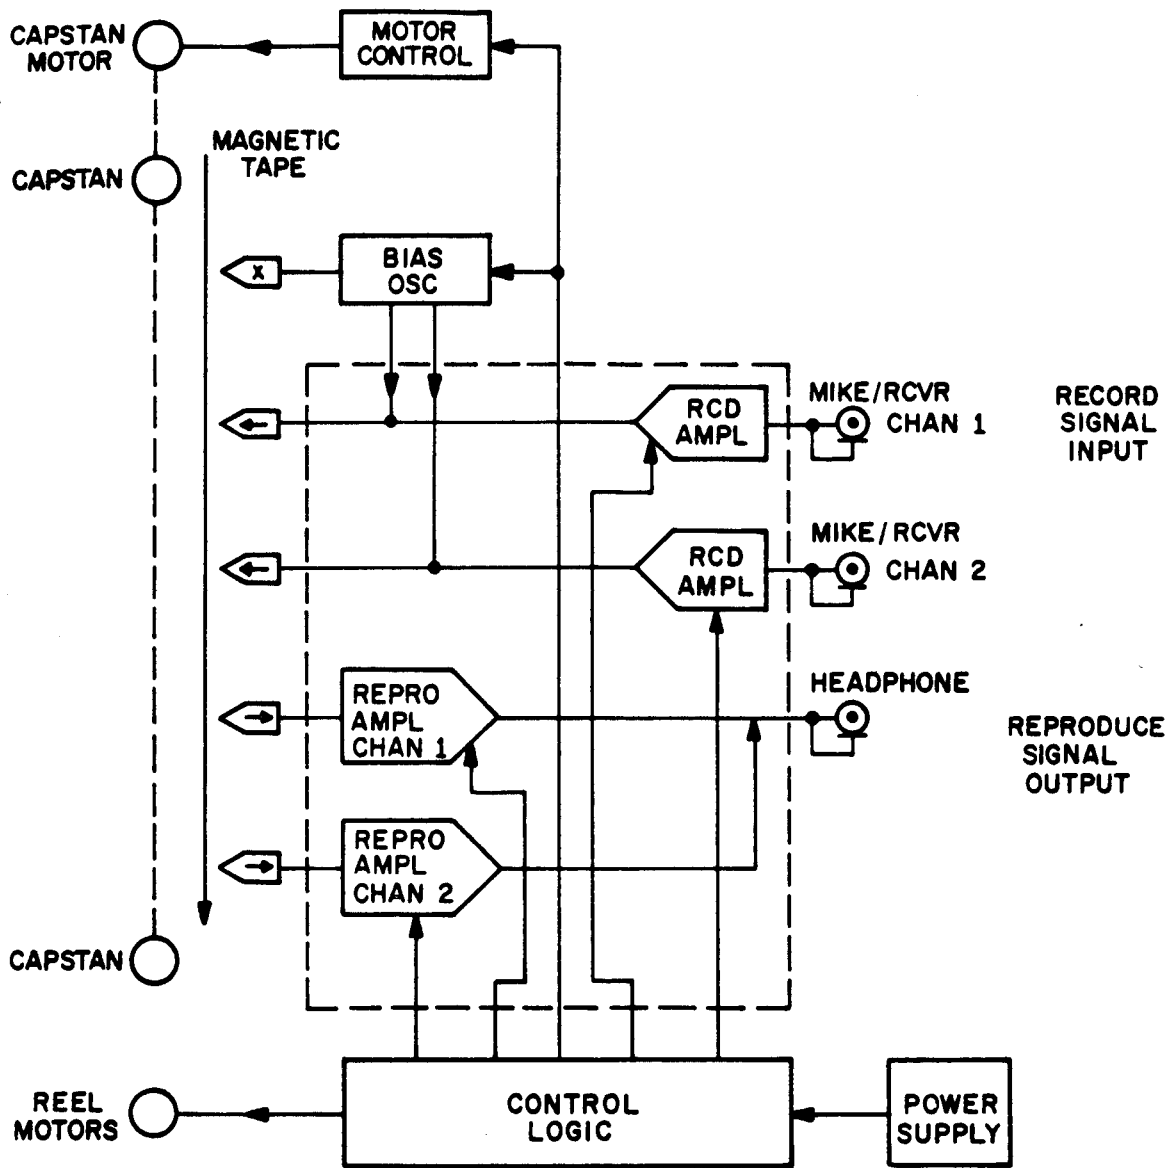

FIGURE 6-1
a. Recording Technique. (See Figure 6-1). Standard direct recording techniques are used in which a record amplifier and magnetic head transfer the time relationship of an input signal directly to a magnetic tape. The signal amplifier conditions and amplifies the input signal and provides a current source for the record head proportional to the applied input signal. This creates magnetic flux changes in the magnetic oxide coating of the tape which correspond in intensity and timing to the input signals. Since the flux density in a magnetic medium does not vary linearly with the magnetizing force, the data signal is superimposed on a high frequency (50 KHz) bias signal to overcome the hysteresis nonlinearity of the magnetic tape. A symmetrical low distortion bias signal is adjusted to optimize system parameters such as frequency response, signal-to-noise ratio and distortion. The data signal is adjusted for recording at normal record level (3% third harmonic distortion upon reproduction of a 400 Hz signal at input record level of 0.77 VRMS.) The bias and data signal record levels are both a function of the characteristics of the record head and magnetic tape used and must be adjusted accordingly.